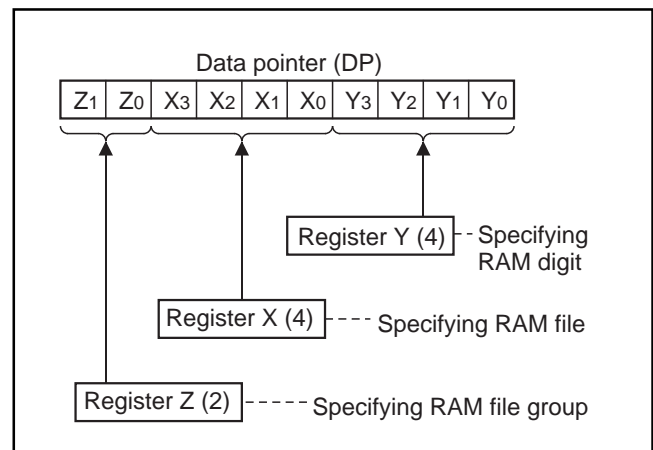

Fig. 8 Data pointer (DP) structure
Data pointer (DP) is used to specify a RAM address and consists of registers Z, X, and Y. Register Z specifies a RAM file group, register X specifies a file, and register Y specifies a RAM digit (Figure 8).